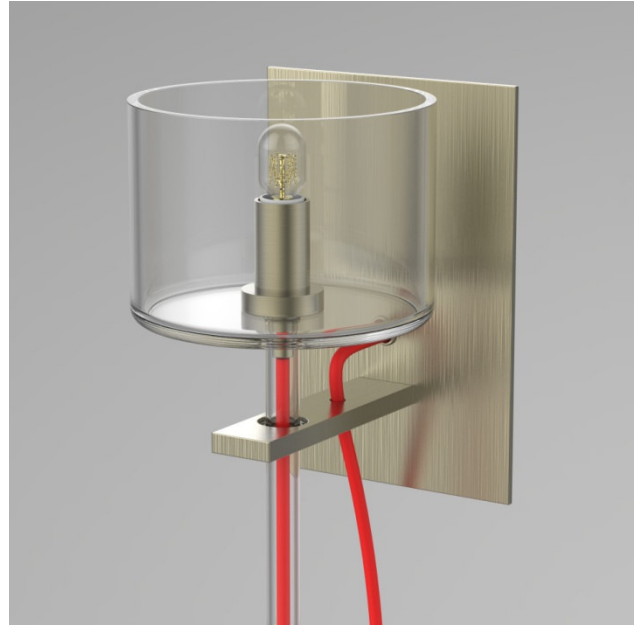

Figure 2
- Insert lamp into socket. (Figure 2)